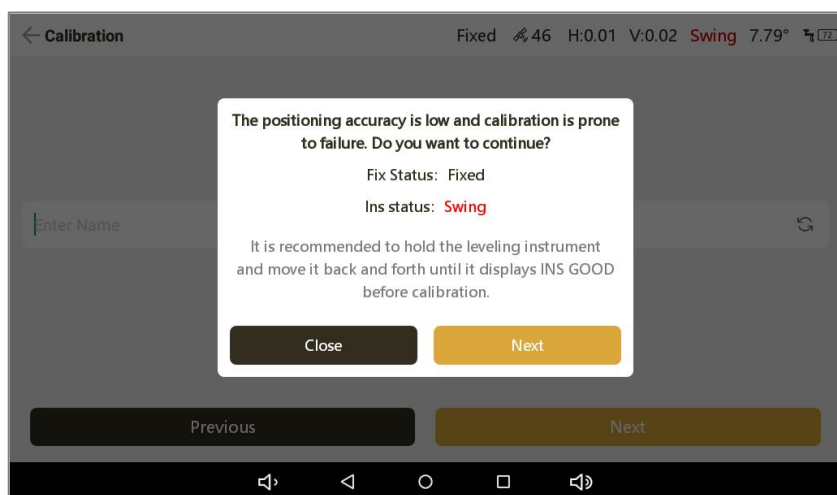
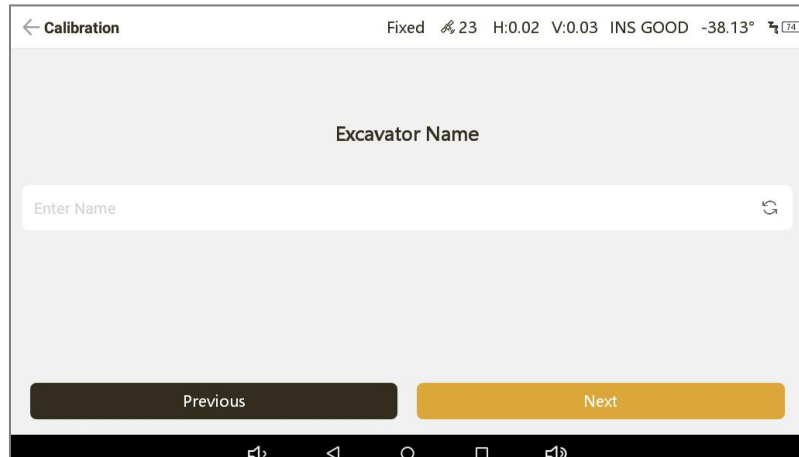

Figure 3-35
Figure 3-36
- ④ Tap 'New' at the bottom to check the current solution status and INS status, as shown in Figure 3-35. Before calibration, the solution status must reach 'Fixed' and the INS status must reach 'INS GOOD'. Hold the leveling instrument with the antenna facing the sky and move it back and forth until INS GOOD is achieved. Once the conditions are met, it will automatically proceed to the next step, as shown in Figure 3-36.